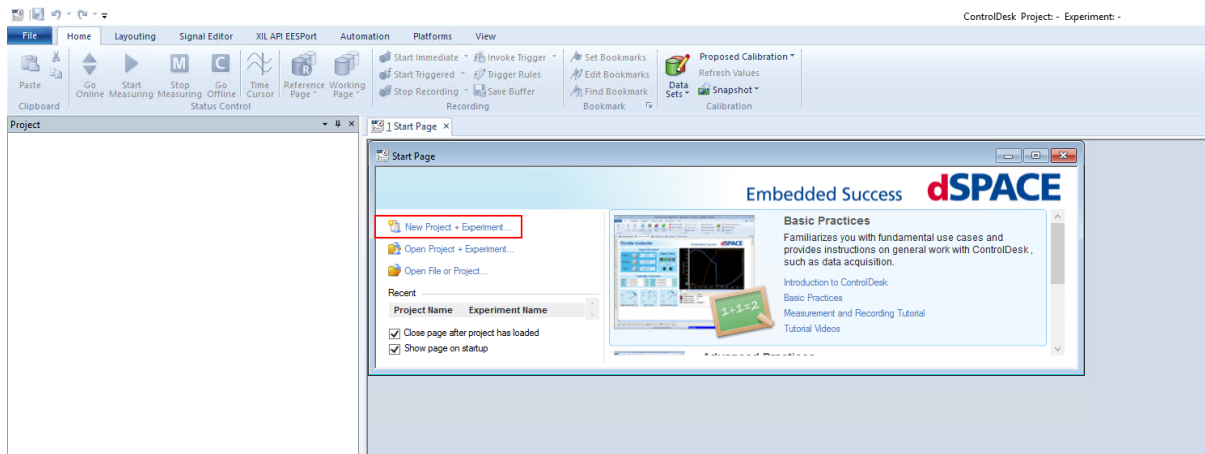

Figure 5.8: Start a new project
- 6) Open dSpace Control Desk and select create new project (see Figure 5.8).